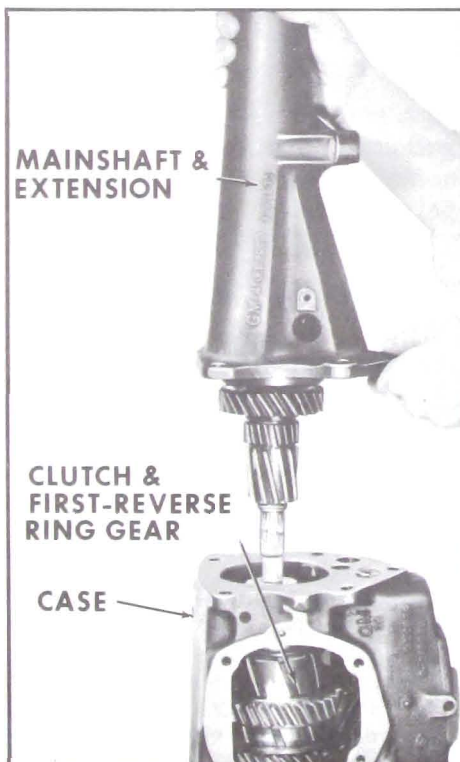

Figure 4-20—Mainshaft Removal
2. Remove extension-to-transmission case bolts and lock washers. Pull extension and mainshaft assembly from transmission case, leaving second and third speed clutch assembly and first-reverse ring gear in the case. Do not force the mainshaft. If necessary, rotate the second - third speed clutch slightly to aid removal. See Figure 4-20.